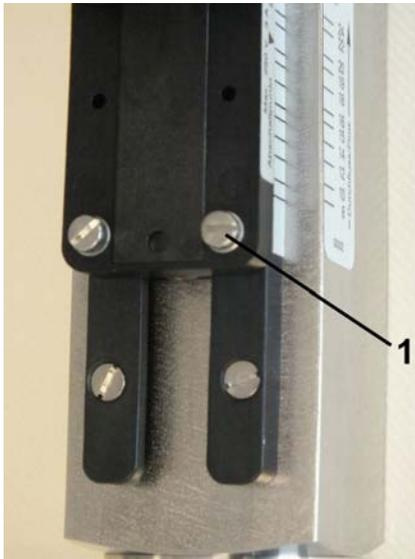

Fig. 31: Loosen set screws
1. ▶ Loosen the set screws of the switch contact (Fig. 31/1) using a flat-bladed screwdriver.
3. ▶ Re-tighten the set screws of the switch contact (1) using a flat-bladed screwdriver. When doing so, observe the correct tightening torque of the screws.